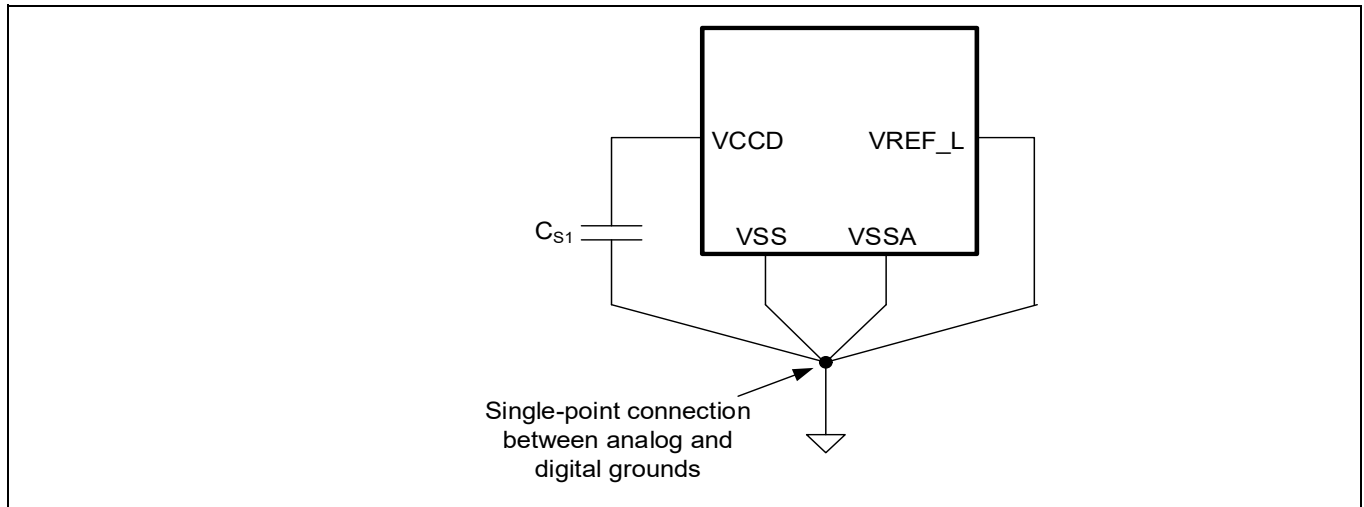

Figure 26-2 Smoothing capacitor
59. Only one smoothing capacitor, C_{S1} is required per chip (not per VCCD pin). The VCCD pins should be connected together to ensure a low-impedance connection (see the recommendation in Figure 26-2).